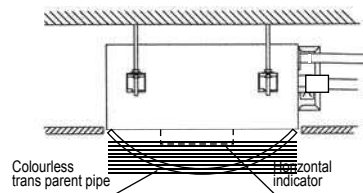

Fig. 5-6
- Use the transparent hose filled with water to check the lever of the main body from the four sides or diagonal line direction, the lever indicator also can check the lever from four sides of the main body. (Refer to Fig.5-6)